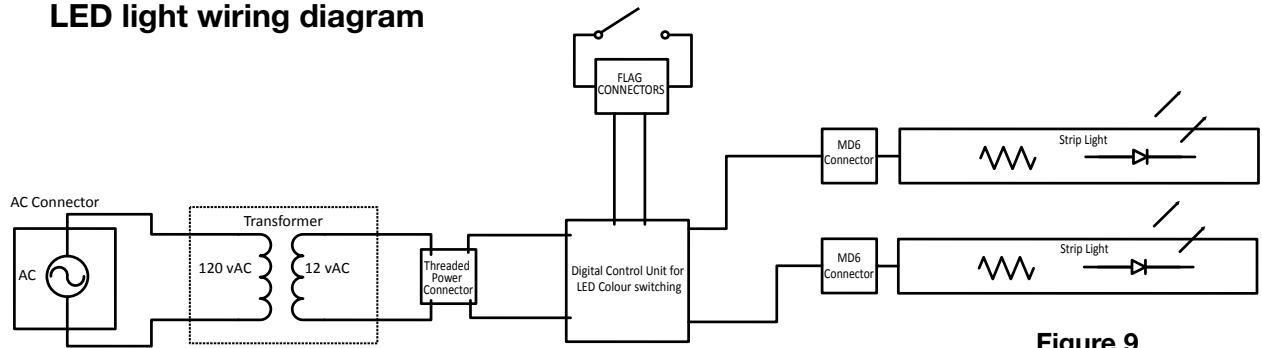

Figure 9
- Move the ON/OFF/REMOTE selector switch to the REMOTE position. Control module will beep once when ready (**Figure 9**).
- Using a small item (such as a paper clip) press and release the “LEARN” button located near the selector switch (**Figure 9**).
1. The control module has an ON/OFF/REMOTE selector switch that must be set (see Figure 9).